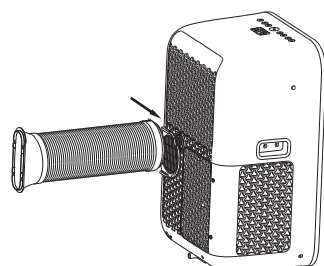

Fig.20
2. Push the Exhaust hose into the air outlet opening along the the arrow direction(See Fig.20)